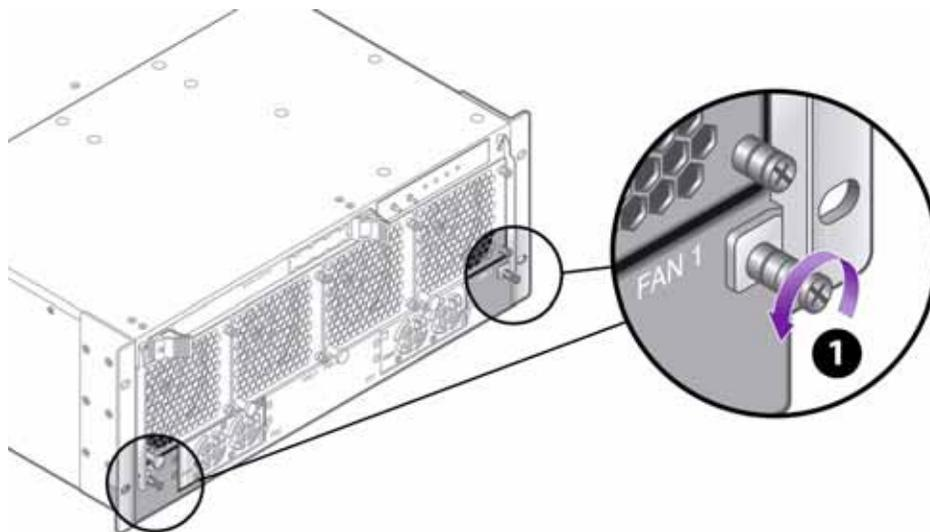

Figure 1 Loosening the VP780 Front Panel Assembly Screws
Step 2 Using the screwdriver, release the two spring-loaded screws (1) securing the release levers to the chassis. See Figure 1.
- Step 4 Using the screwdriver, tighten the two spring-loaded screws securing the release levers to the chassis. This step is the reverse of Figure 1. *Do not overtighten the screws!*